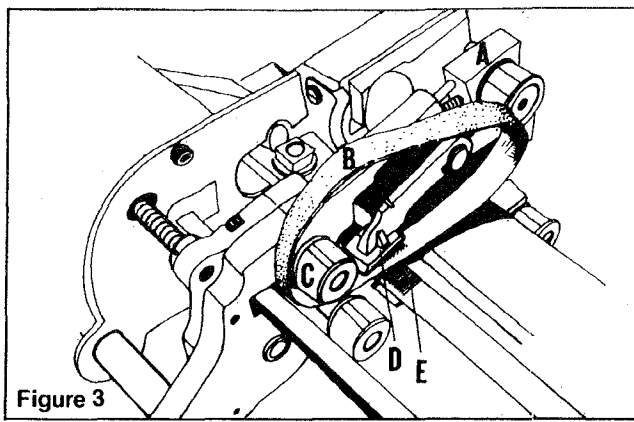

Figure 3
b) Figure 3: Slip new FlexiBand "B" over Drive Pulley "C" and between Band Plate "D" and Blade "E." Push Block "A" forward and slide FlexiBand over it. Release Block "A."